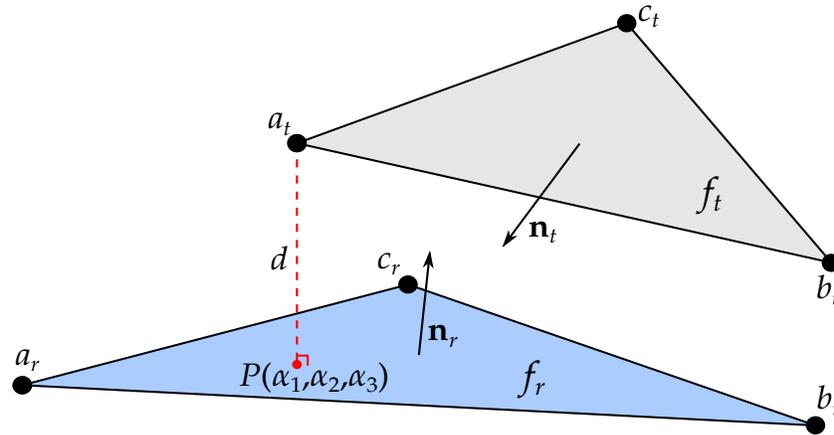

Figure 0-1. Contact detection conditions between two faces.
In these remarks, we discuss the conditions for contact detection. For reference, Figure 0-1 illustrates which geometric values help determine contact. In this figure and discussion, f_r is a face of the reference surface, and f_t is a face of the tracked surface. Contact is detected when all of the following three conditions are satisfied:
Here \mathbf{n}_r and \mathbf{n}_t are the normal vectors of faces f_r and f_t , respectively, and ε_1 is an input parameter. See Figure 0-1.
$(\alpha_1, \alpha_2, \alpha_3)$ are the local coordinates of point P (see Figure 0-1). P is the projection of point a_t on face f_r . ε_2 is an input parameter.
3. Contact condition 3 depends on the contact type. For either possible condition, let d be the distance between P and a_t (see Figure 0-1).